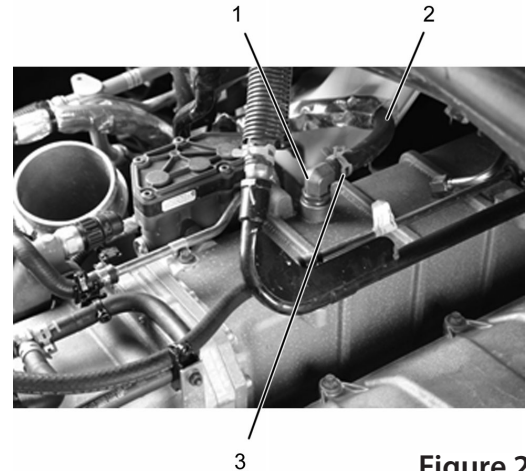

Figure 2
1. Install large test plate (Figure 1, Item 1) onto EGR dual flap valve (Figure 2 Item 3) with four bolts (Figure 1, Item 4). Using torque wrench, torque four bolts to 18 lb-ft (24 N•m).
4. Remove spring clamp (Figure 2, Item 3) and sleeper coolant supply hose (Figure 2, Item 2) from brass fitting (Figure 2, Item 1).
5. Remove 90-degree brass fitting (Figure 2, Item 1) from EGR high-temperature cooler.